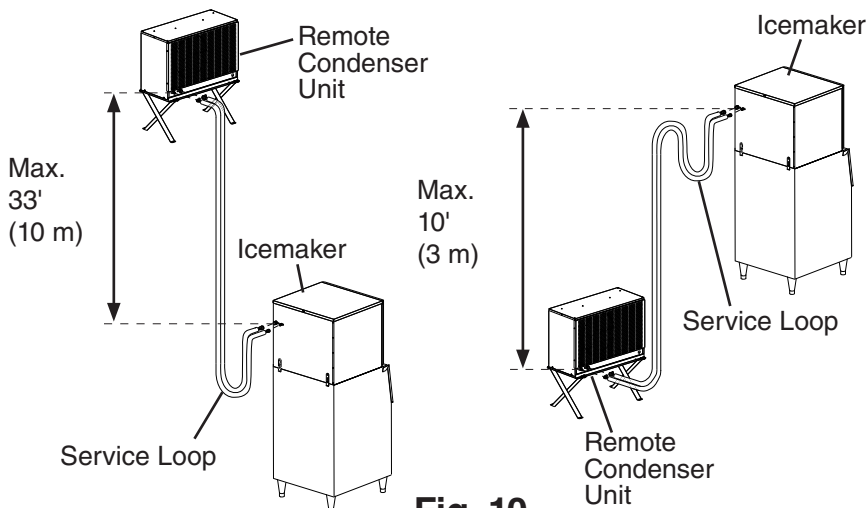

Fig. 10
- The maximum vertical distance between the remote condenser unit and the icemaker is 33' (10 m) above or 10' (3 m) below the icemaker. These distances are measured fitting to fitting. See Fig. 10.